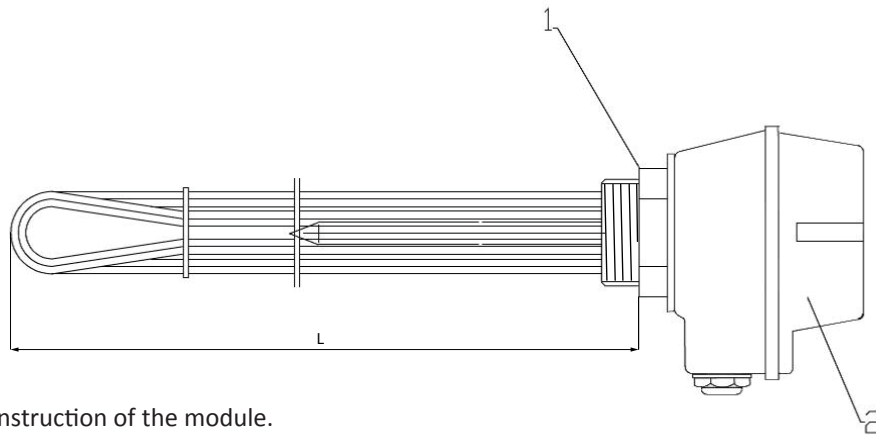

Fig. 1 Construction of the module.
2. Unscrew the plug protecting the connector pipe. Screw-in the electrical module instead of the plug (Fig. 1 position 1) – seal the thread with oakum or other sealing means available.
6. Unscrew the box front side (Fig. 1 position 2),